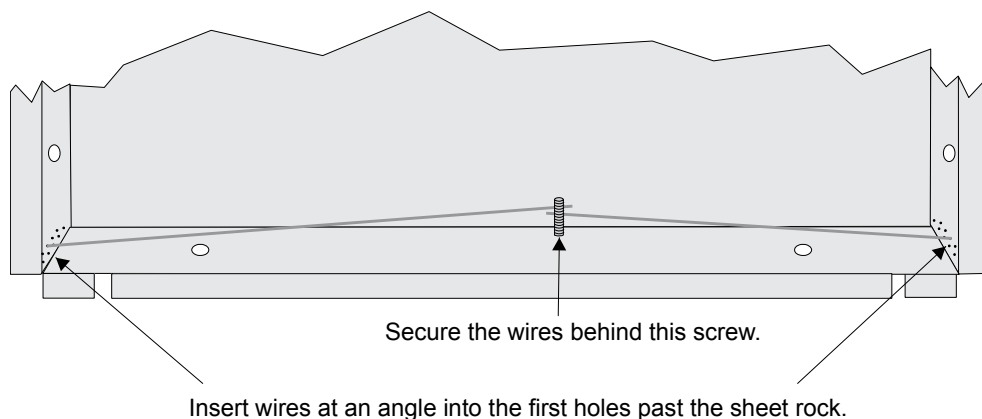

**Figure 4.21 Placement of Electrical Box for Flush Mounting**
1. Cut a hole in the sheet rock to the following dimensions: 8-1/4" w x 6-5/8" h. If an electrical box is used, the box must be 1-3/8" back from face of wall to accommodate the annunciator (see Figure 4.21).